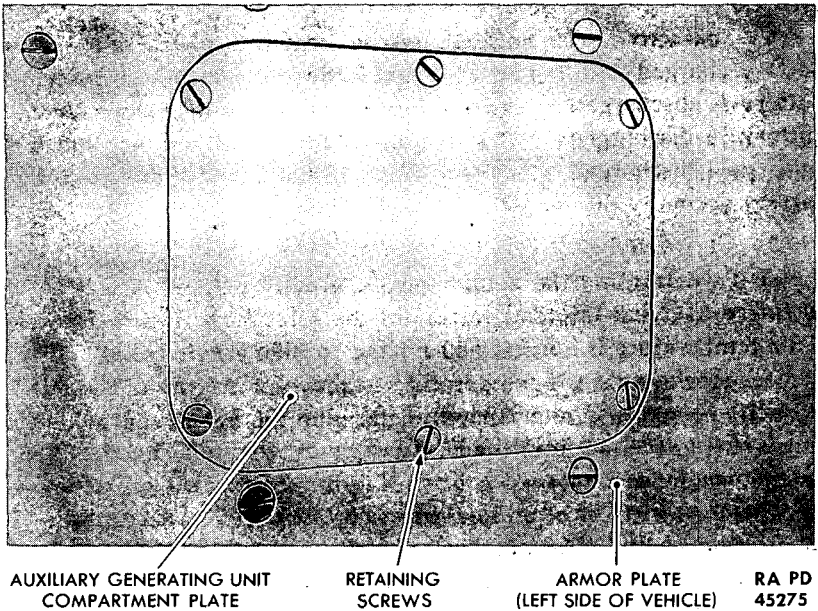

Figure 41—Auxiliary Generating Unit Compartment Plate
(3) To determine the actual specific gravity of the electrolyte, it is necessary to check the temperature of the solution with a thermometer. If the temperature is normal (80 F) the specific gravity reading will be correct. However, if the temperature is above or below 80 F, it will be necessary to make an allowance to determine the actual specific gravity. This is due to the fact that the liquid expands when warm, and the same volume weighs less than when it is at normal temperature. The reverse is also true, and when the temperature is below normal or 80 F, the liquid has contracted and the same volume weighs more than it does when normal. To correct the specific gravity reading to make it correspond to the temperature of the electrolyte, add or subtract 0.004 from the hydrometer reading for each 10 degrees variation in temperature from the normal of 80 F. For example, when the specific gravity, as shown by the hydrometer reading, is 1.290 and the temperature of the electrolyte is 60 F, it will be necessary to subtract 8 points or 0.008 from 1.290 which gives 1.282 as the actual specific gravity. If the hydrometer reading shows 1.270, at a temperature of 110 F, it will be necessary to add 12 points or 0.012 to the reading which gives 1.282 as the actual specific gravity.
77. AUXILIARY GENERATING UNIT (figs. 41 and 42).
(1) The auxiliary generating unit is a self-contained unit used for charging the tank batteries. The unit is located in the left rear sponson, and may be reached either from within the engine driving compartment or by removing the compartment plate recessed in the left track armor plate (fig. 41).
(2) The auxiliary generating unit should be in operation whenever the turret is being electrically operated, or when the guns are being fired (3-inch gun, 37-mm gun and how cal. .30 machine gun are fired electrically).